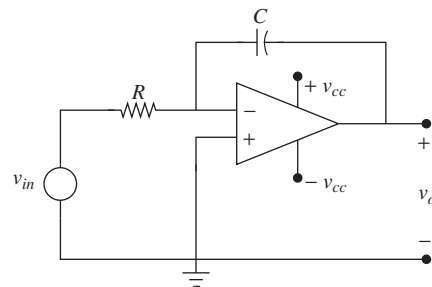

Figure P9.27 OP-AMP circuit for problem P9-27.
- 9-27.** An OP-AMP circuit shown in Fig. P9.27 has $R = 10 \text{ k}\Omega$ and $C = 10 \mu\text{F}$. The relationship between the input and output of the OP-AMP is given by
9-29. The integrating OP-AMP shown in Fig. P9.27 has components chosen such that $RC = 2.5$ s. The output voltage $v_o(t)$ is related to the input voltage $v_{in}(t)$ as $\frac{dv_o(t)}{dt} = -\frac{1}{RC} v_{in}(t)$.